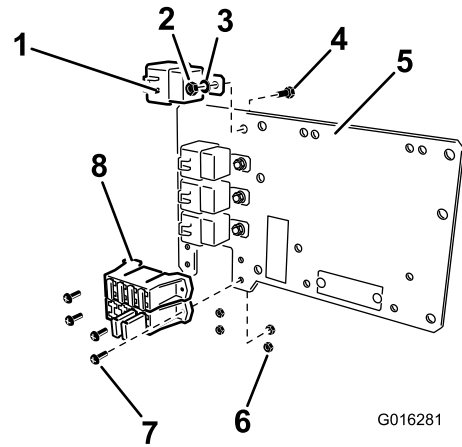

Figure 12
1. Secure 4 relays to the front of the mount plate with 4 bolts (1/4 x 5/8 inch), 4 lock washers (1/4 inch), and 4 nuts (1/4 inch) as shown in Figure 12.
2. Secure the fuse block ends of the wiring harness to the mounting plate with 4 screws (#10) and 4 nuts (#10) as shown in Figure 12.